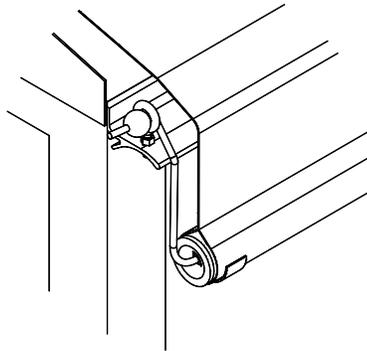

Figure 23
Procedure: First drill an 11/32" hole into the front of latch plate 1 1/2" from the edge of the tarp. Fasten the eyebolt (H) to the latch plate with the 5/16" nut (I) and nylock nut (J). Thread the rope through the eyebolt shown in figure 23 and knot the end of the rope to prevent it from going through the eyebolt. Cut any extra material off and melt the end to prevent it from fraying.